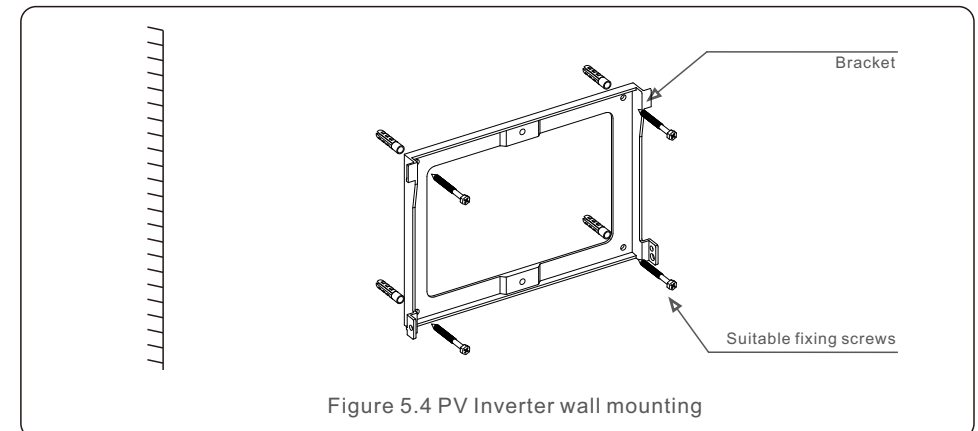
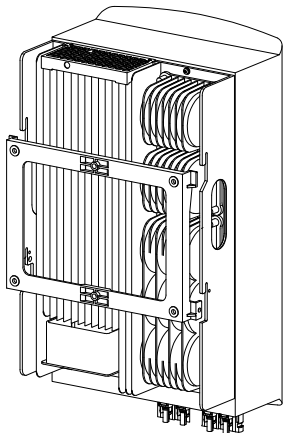

Figure 5.4 PV Inverter wall mounting
Figure 5.5 Install the PV Inverter
Refer to figure 5.4 and figure 5.5. PV Inverter shall be mounted vertically. The steps to mount the PV Inverter are listed below.
1. Refer to Figure 5.4, the holes for expansion bolt based on the hole diameter of bracket (ST6.3*60 cross recessed hexagon head tapping screws, HJ0108 10*50mm fished expandable tubular), using the percussion drilling with the 10mm drill need to stay vertically on the wall. And the drill hole must be vertically on the wall. And all drill holes' depth is 60mm.
2. Make sure the bracket is horizontal. And the mounting holes (in Figure 5.4) are marked correctly. Drill the holes into wall at your marks.